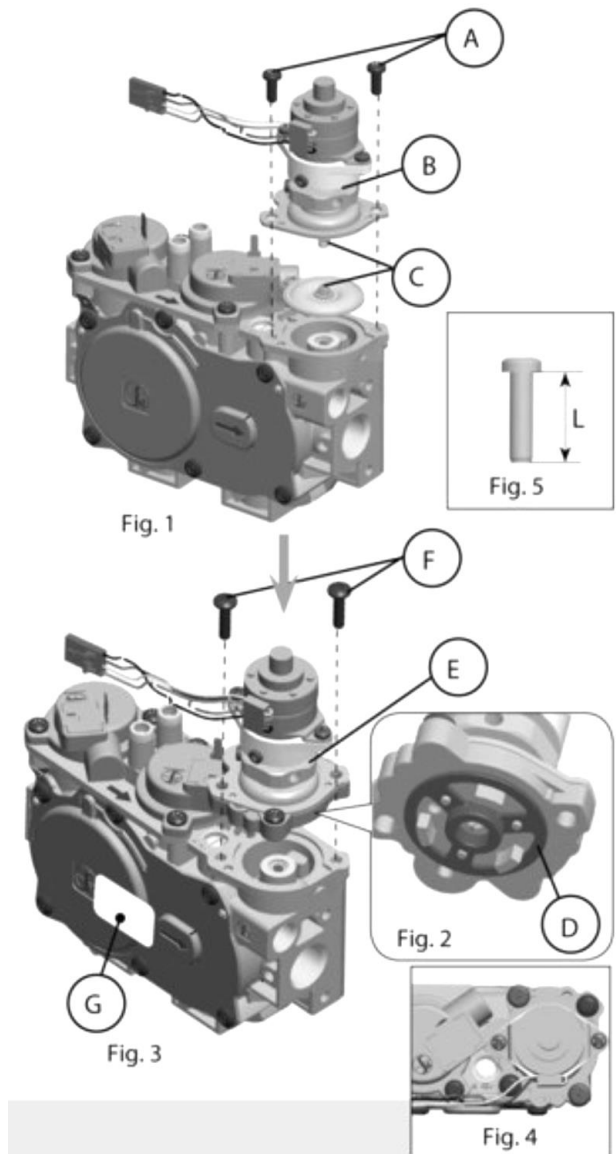

Figure 4-15 Pressure Regulator Conversion
2. See Figure 4-15- 2: Ensure the rubber gasket (D) is properly positioned. The rubber gasket is pre-fitted as part of assembly (E).
3. See Figure 4-15- 3 and Figure 4-15-4: Install the new stepper motor pressure regulator assemble. Use the provided screws (F), M4 x 0.7 threaded; length of thread $L = (16\text{mm} + 0 - 0.5\text{mm})$, steel material, resistance class 8.8 (Figure 4-15-5).
6. Install the enclosed identification label (G) to the valve body where it can be easily seen.